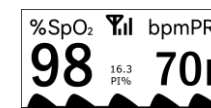

Figure 1
1. Once the data has been displayed on the screen, the cellular data transfer will begin automatically. Uploading will appear on the screen. (as shown in Figure 1 and 2)